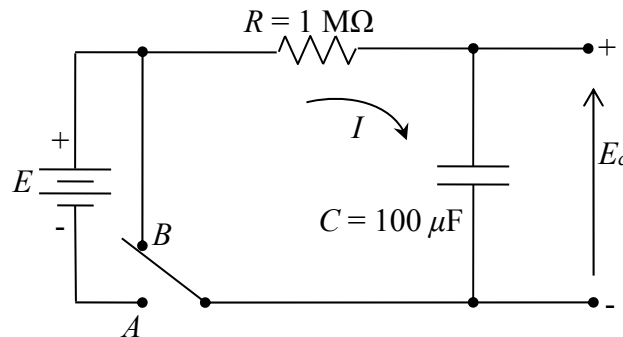

Figure Q3[a]
- Q3. [a] Figure Q3[a] shows a simple RC circuit consisting of a capacitor, a resistor and a 100 V voltage source connected in series. Assuming that the capacitor carries no initial charge and then the switch is moved to contact A.